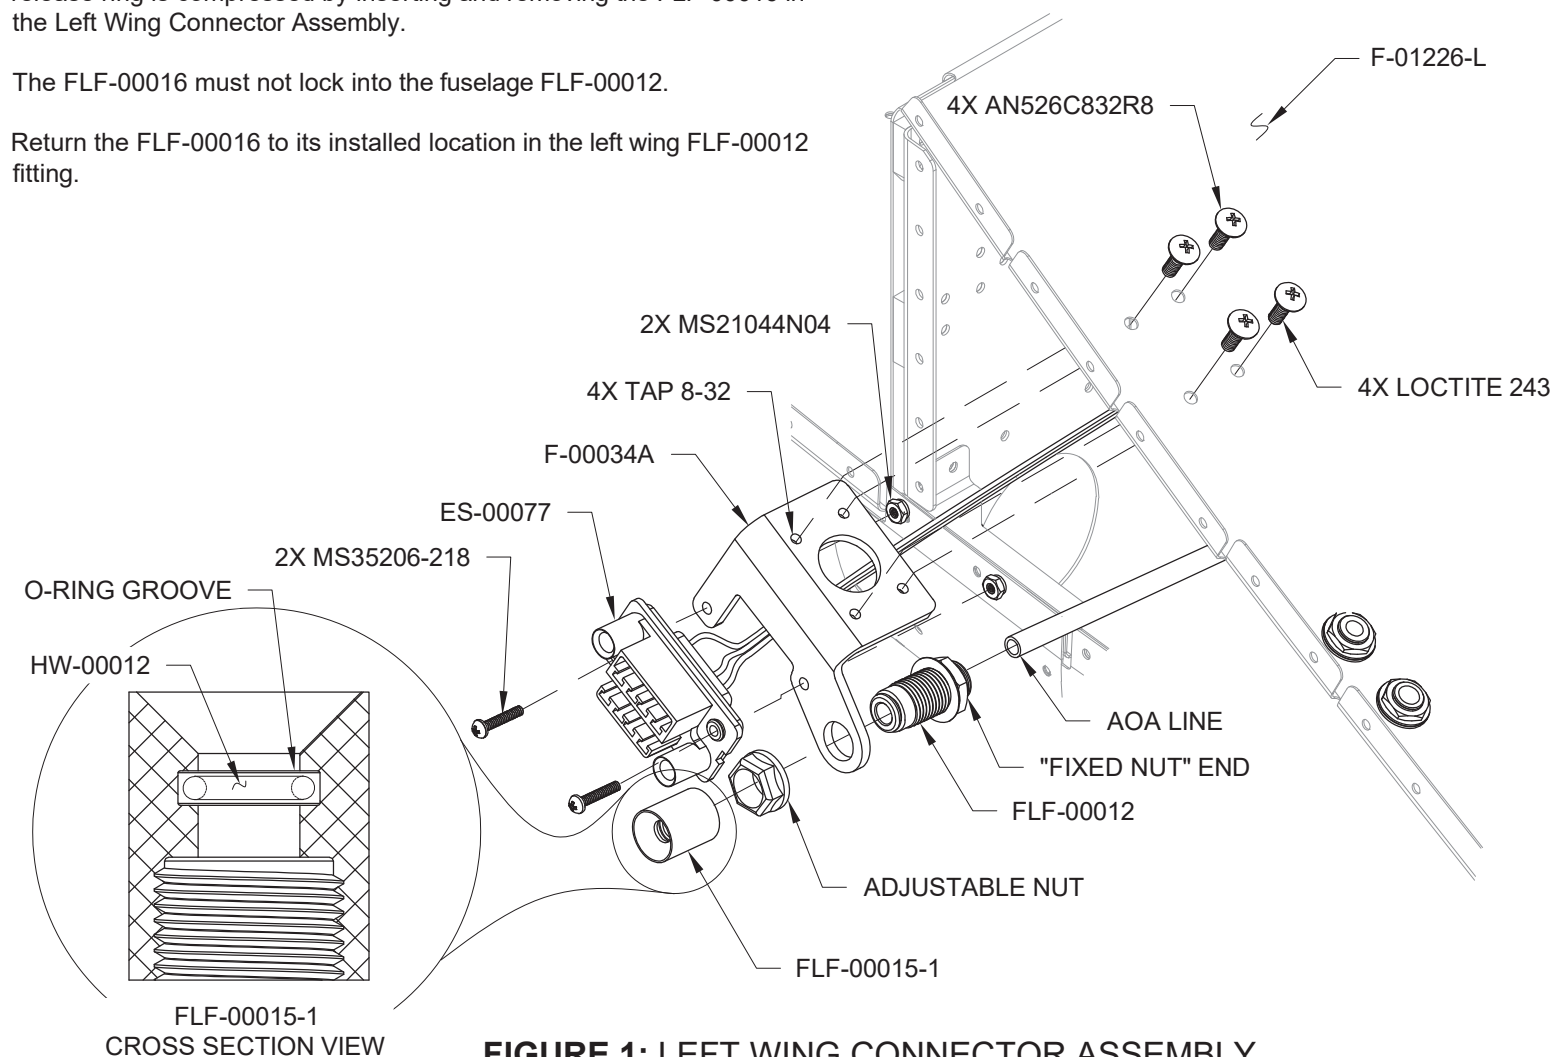

FIGURE 1: LEFT WING CONNECTOR ASSEMBLY
Step 7: Install the F-00034A to the F-01226-L using the four mounting screws as shown in Figure 1.